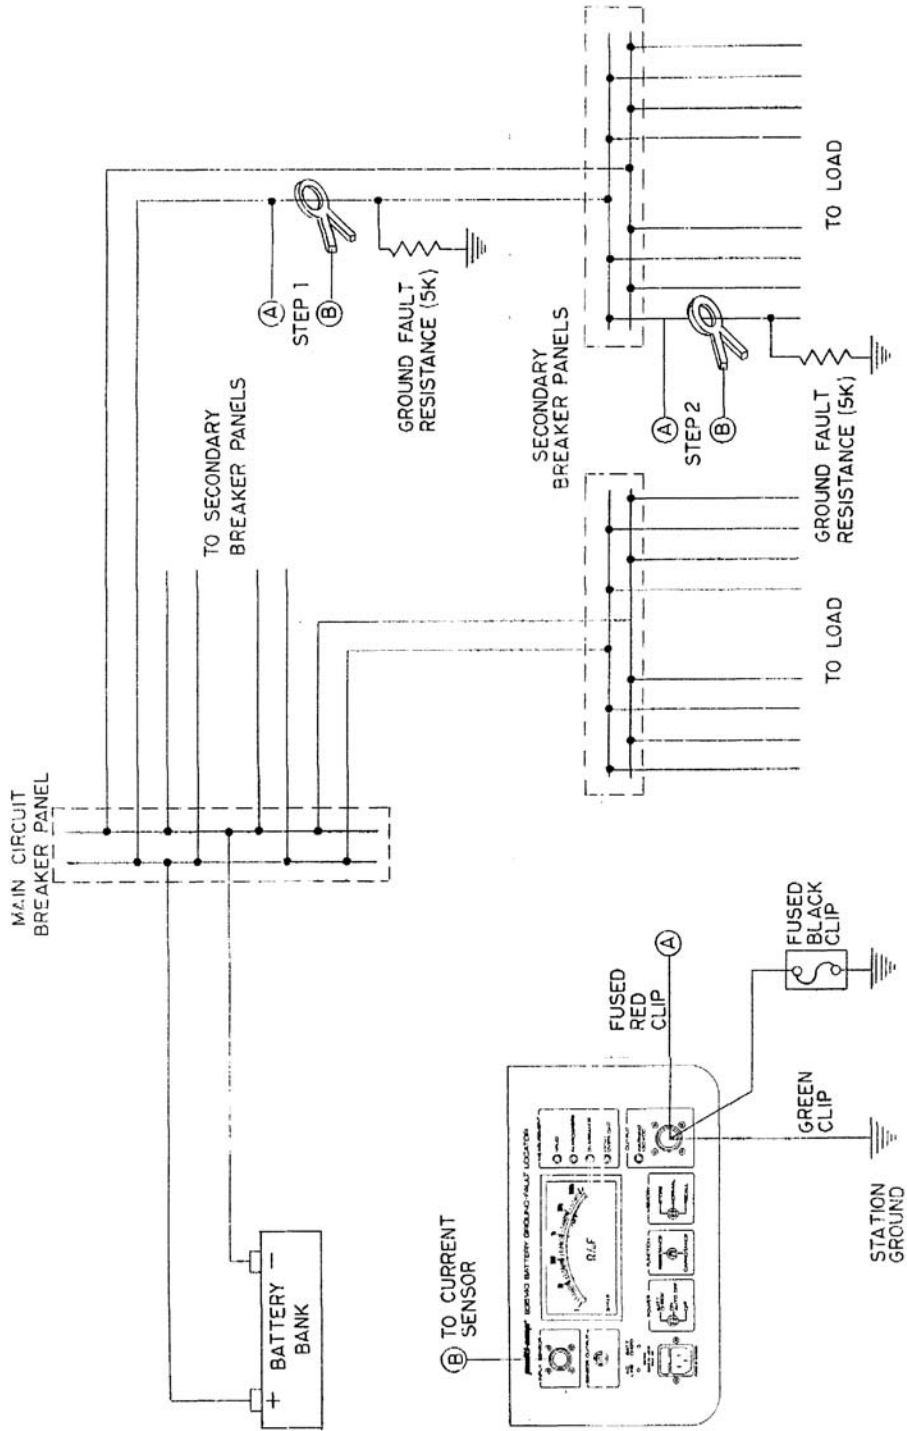

Figure 4-6: Locating Multiple Ground Faults
Refer to Figure 4-6 for further explanation of procedure.
1. Connect Battery Ground Fault Locator as per step 1 in section 4.6, *Procedure for Locating Ground Faults Leads and C.T.* as per Figure 4-6. Indication on meter "2.5 Kohms", therefore, total resistance after this point (including branches of secondary breaker panel) is 2.5 Kohms.
1. Connect *red* fused clip as per Figure 4-6, step 2.
2. Clamp C.T. as per Figure 4-6, step 2.